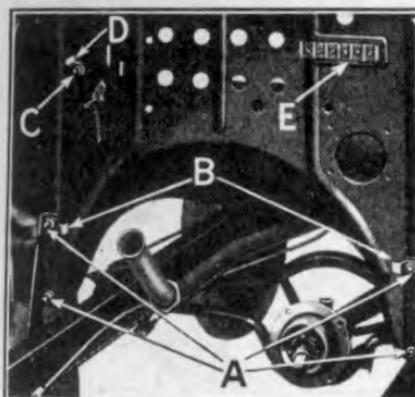

Fig. 79
- (b) Insert the four dash to bracket bolts (See "A" Fig. 79) through dash and brackets.